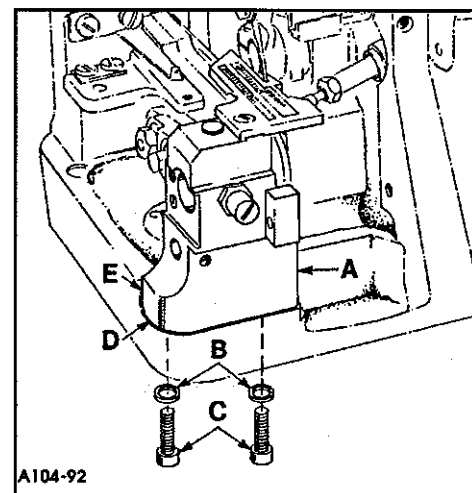

Fig. 5
After attaching the feed dogs to the feed bars, fasten support block (A, Fig. 5) with attached throat plate to the machine bed using washers (B) and screws (C). Place shim (D) between block (A) and machine bed on style 39500 SE 1/8 only. Make sure the back of the block is tight against casting wall (E). Position the block to the right or left until there is an equal amount of space between the feed dogs and the sides of the throat plate slots. Tighten screws (C).